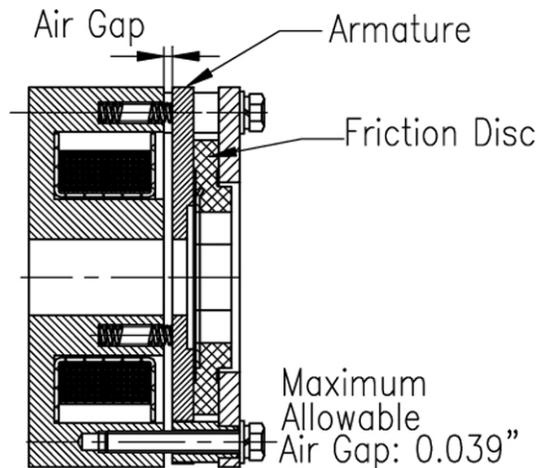

Figure 11
3. Check for worn brake disc by measuring the brake air gap with a feeler gauge (Figure 11). A brake gap larger than the allowable wear limit – 0.039" - may cause chatter or failure to release.